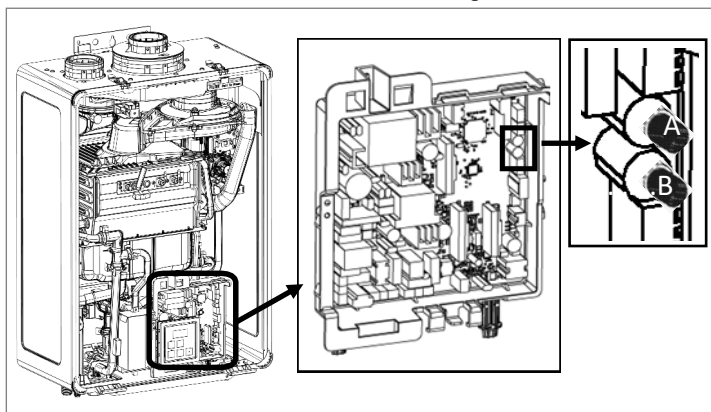

Figure 75
9. Locate the PC Board at lower of unit (Figure 75).